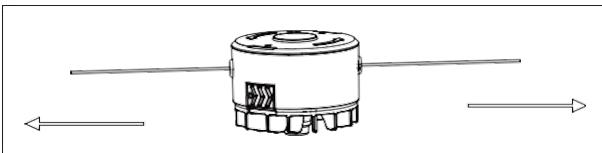

Fig. 7
- d). Replace the cover of the string casing. Make sure the lid snaps into place. (See Fig. 7).